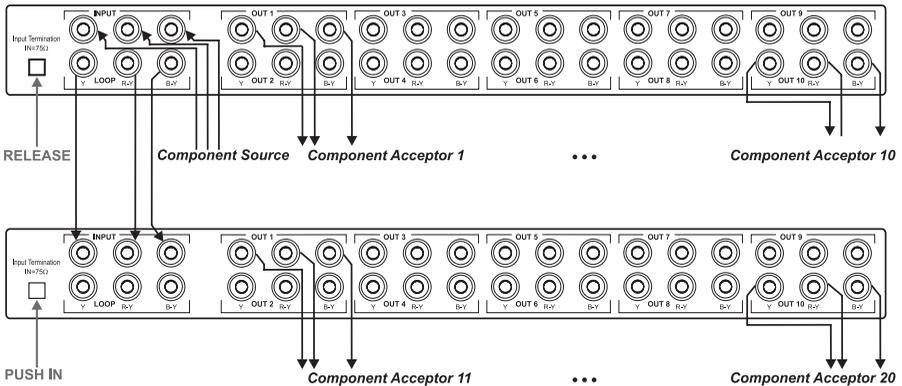

Figure 4: Connecting Several VM-100C Units
You can connect several **VM-100C** units to form an expanded video component distributor. For example, as Figure 4 illustrates, connect two **VM-100C** units to form a *1:20 Video Component Distributor*.
5. Connect both power cords3 (not illustrated in Figure 4).